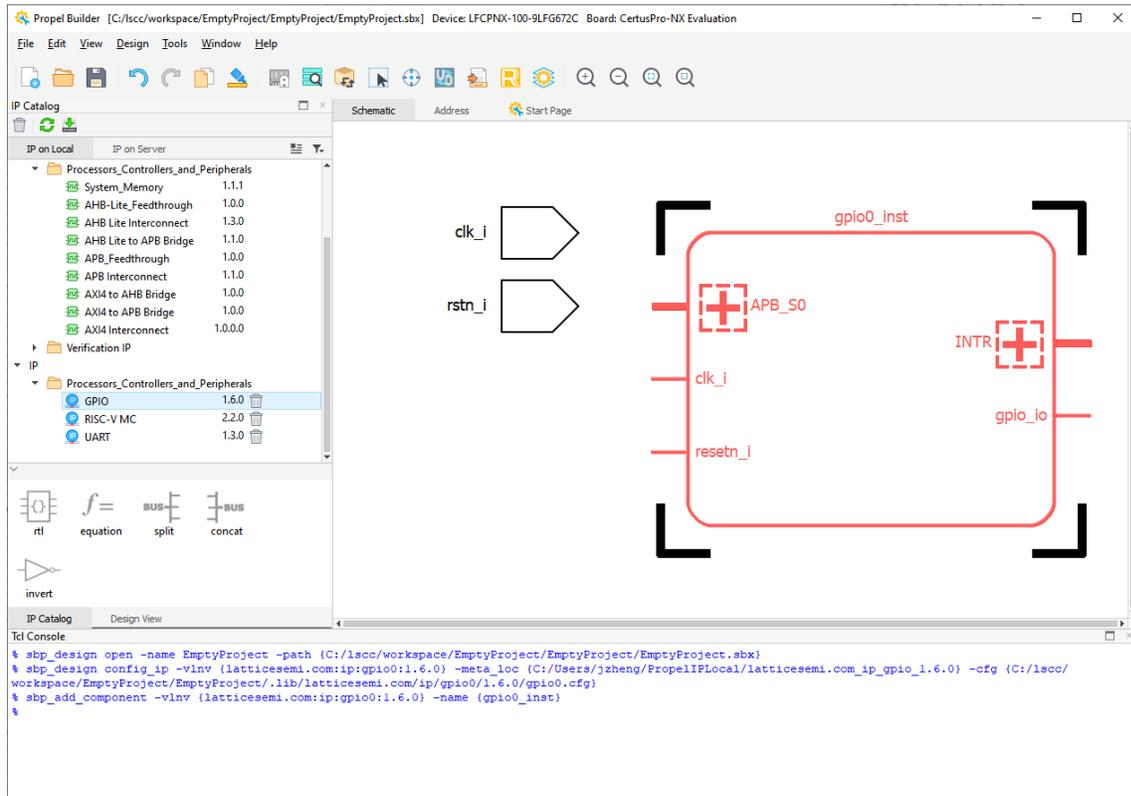

Figure 2.25. Propeller Builder Schematic View Shows the Module Instance
9. Click **OK**. The schematic block for the module appears in the **Schematic** view (Figure 2.25).